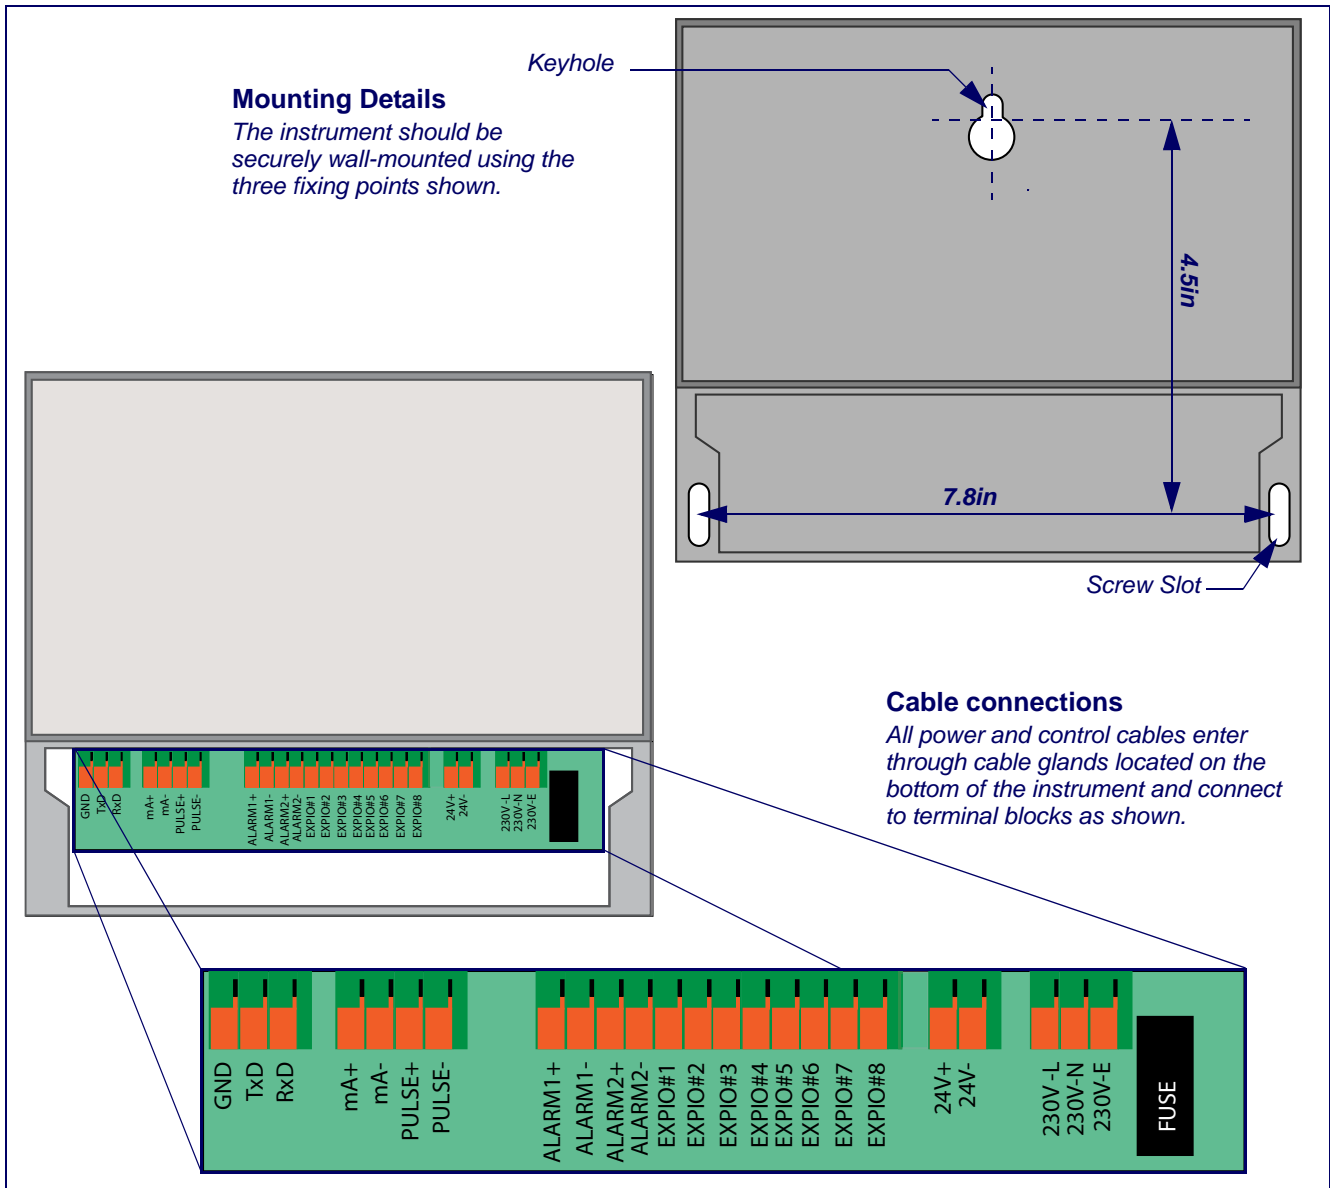

Figure 2.1 U3000/U4000 Mounting and connection details
3. Cut the wires to length, strip back the insulation by approximately 0.4in and connect them into the required terminals as described above and identified in Figure 2.1.
2. Cut the wires to length, strip back the insulation by approximately 10mm and connected to them into the correct power supply terminals identified in Figure 2.1.